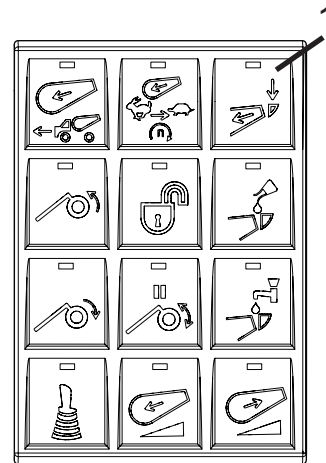

Figure 38
4. Press the LOAD button on the optional in-cab keypad (Figure 38, Item 1). The button indicator will illuminate. The LOAD icon will display on the drum control on the touch screen monitor.